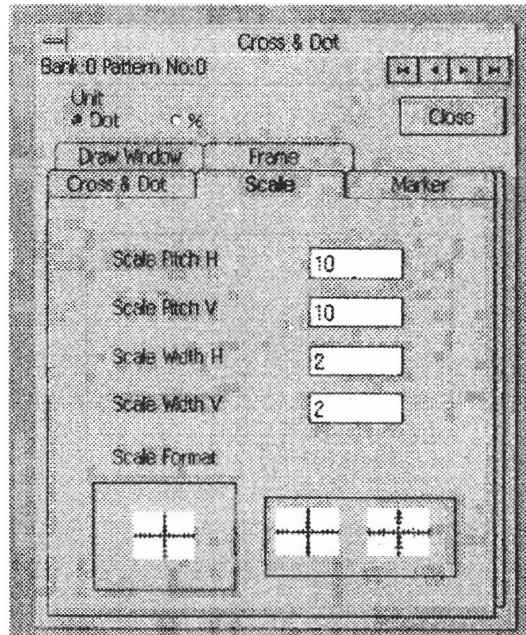

Figure 4-28
- * "Scale" card: Specifies a scale in the crosshatched pattern (Figure 4-28).